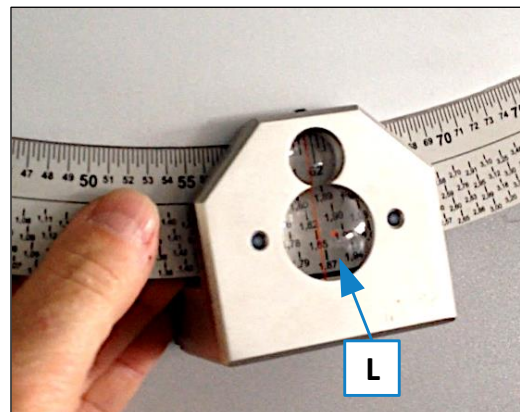

Figure 7: Set factor by scale
4. Turn the turntable as shown in ⇒ Figure 7 with the large magnifying glass (L) to a factor of 1.8 and clamp it tight.